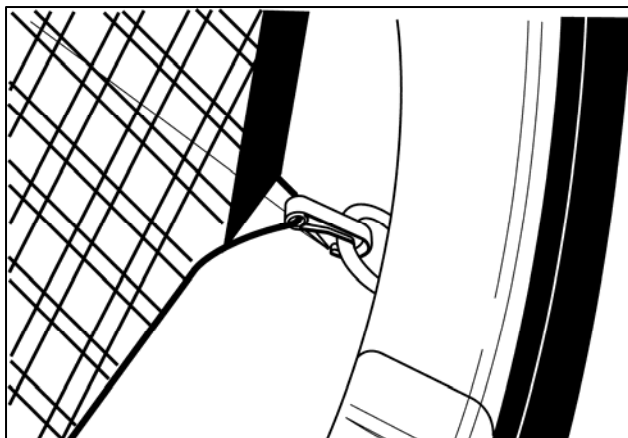

Fig. 2-1
- (a) Orient the net so the pull-tab is facing towards the rear of the vehicle and install the bottom hook over the passenger side lower D-ring as shown. (Fig. 2-1)